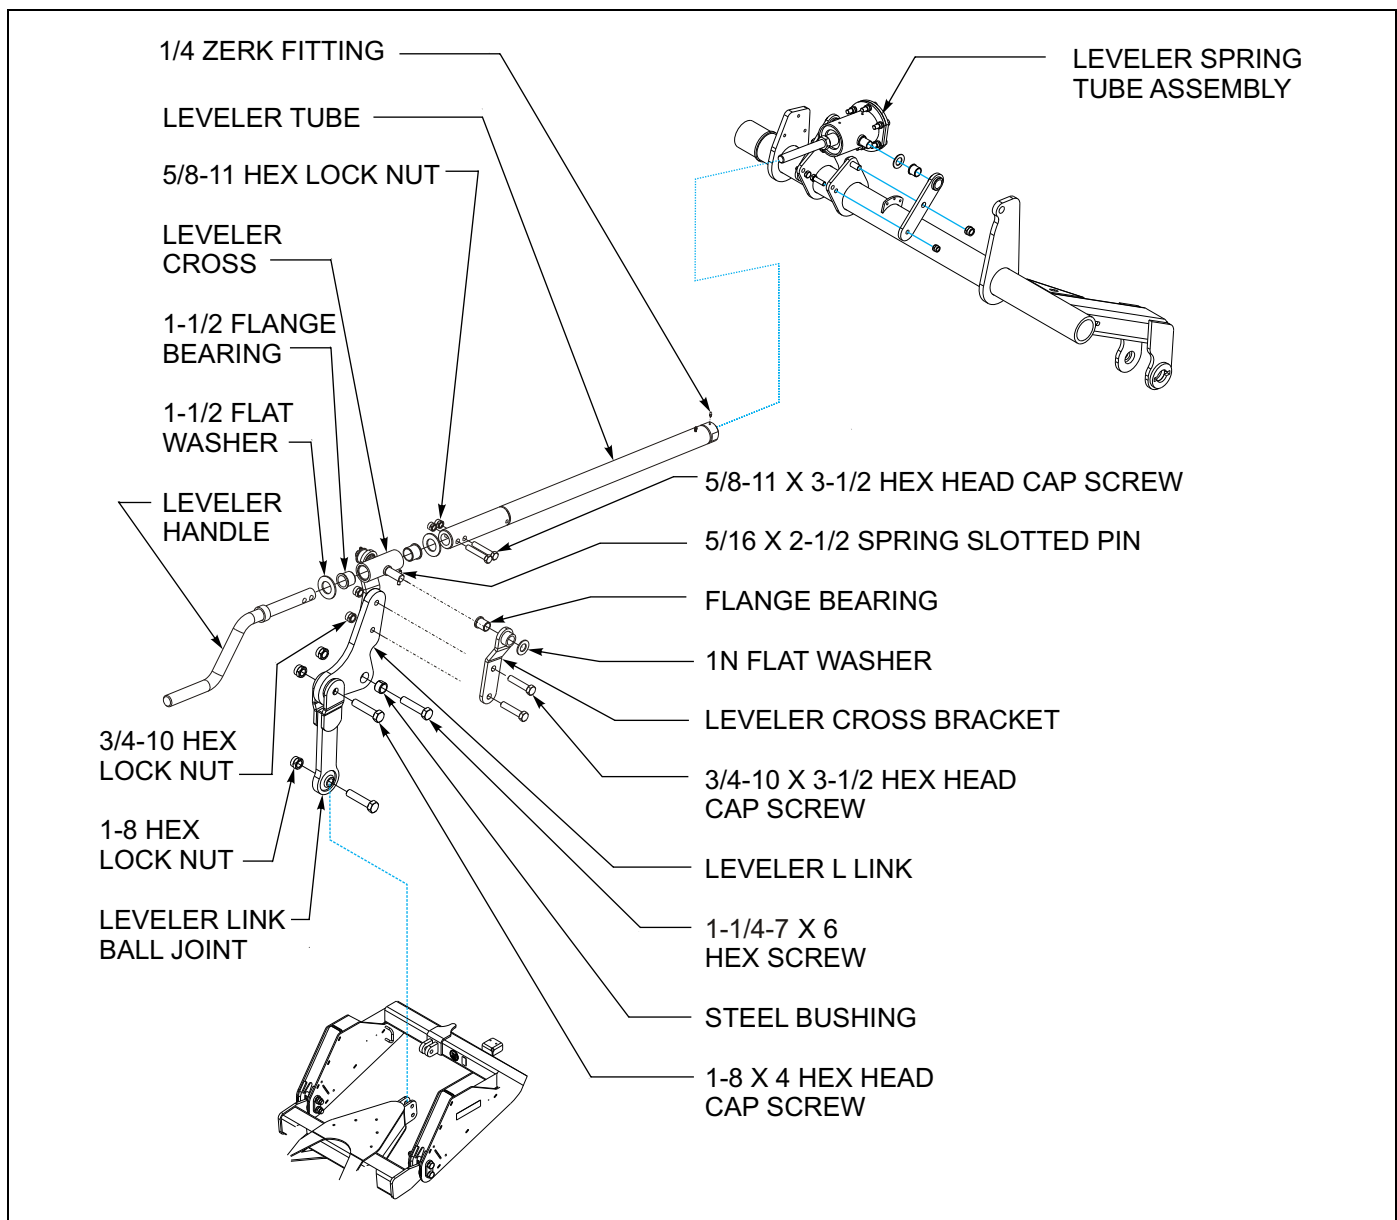

Figure 3-3: Manual Leveler Installation
- Using the manual leveler, screw the leveler tube onto the leveler screw assembly (See Figure 3-3.) Initially leave approximately 3" of threads visible, further adjustment may be required. Rotate the tube so that the zerk hole in the threaded end is pointing upward.